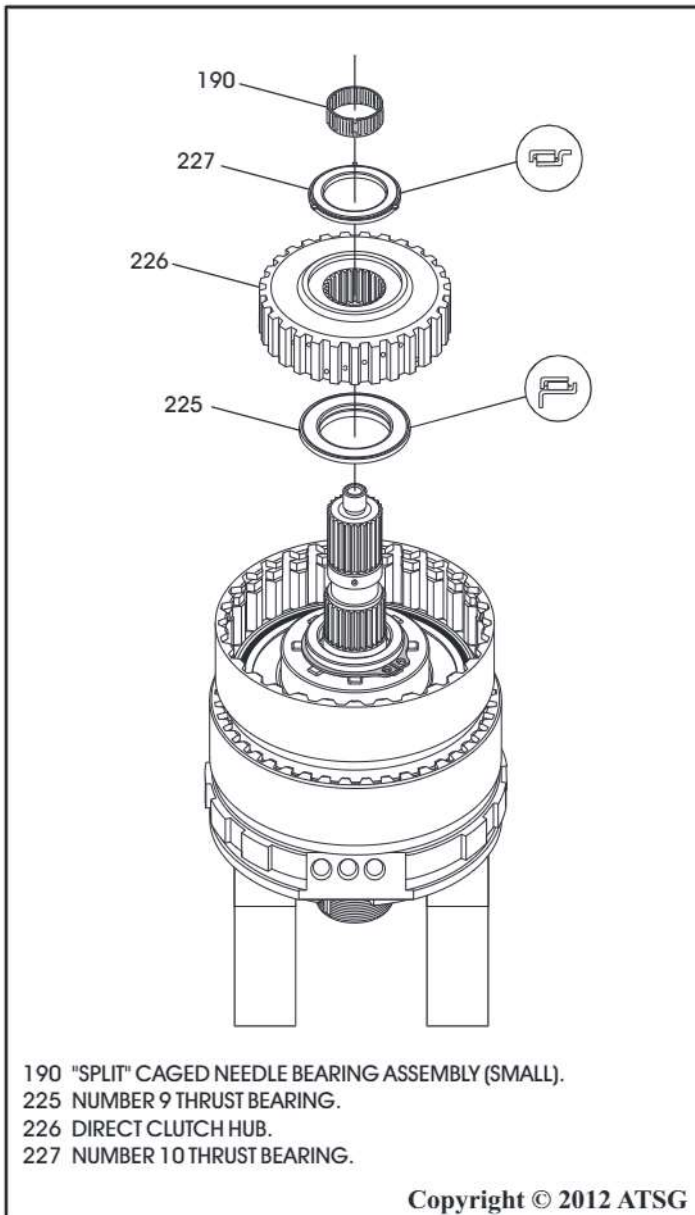

Figure 165
20. Install the number 9 thrust bearing in the direction shown in Figure 165.
21. Install the direct clutch hub in the direction shown in Figure 165.
22. Install the number 10 thrust bearing in the direction shown in Figure 165 and retain with a small amount of Trans-Jel®.
23. Install the small "split" caged needle bearing in proper position on the underdrive center shaft, as shown in Figure 165.